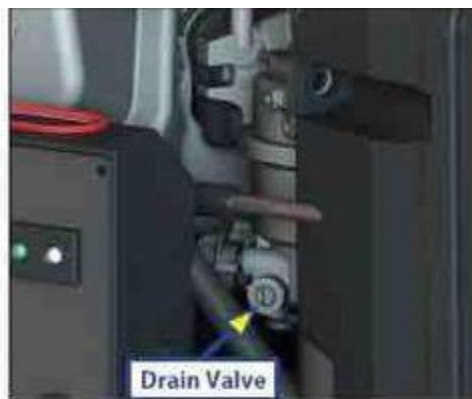

Fig. 12
8. Drain the carburetor bowl (Fig. 12) to prevent deposits of gum from clogging the small passages in the carburetor as the gasoline in the carburetor evaporates during storage. Drain the carburetor bowl as follows: